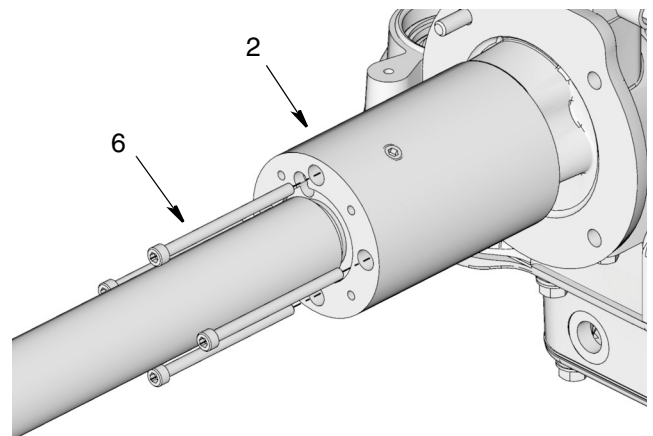

FIG. 22
9. Remove screws (6) from pump adapter (2) (FIG. 22).